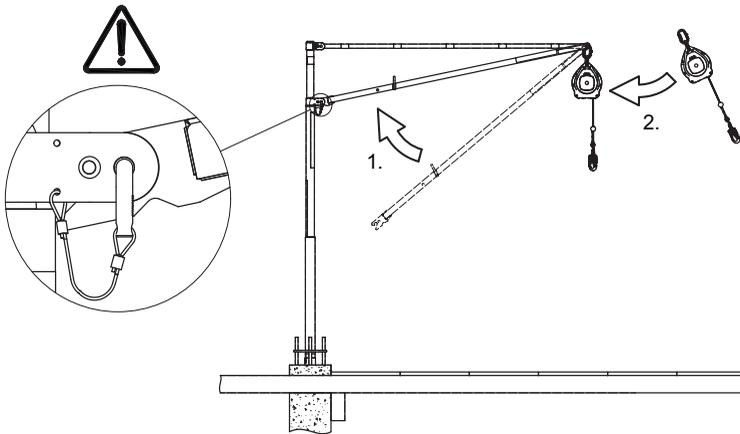
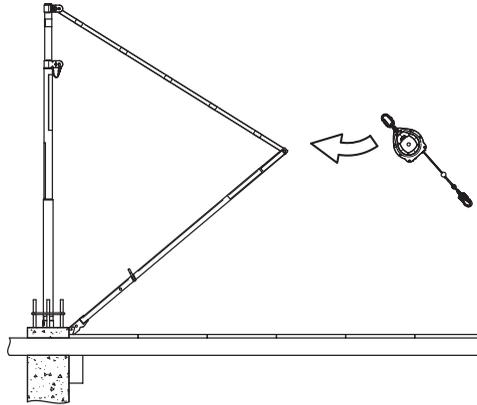

Figure 25. Assembling the SkyReach Anchor and attaching a 6,2m Falcon Fall Arrest Block.
Figure 26. Attaching a 6,2m Falcon Fall Arrest Block at a lower height.
3. Proceed either by; (1) fully assemble the SkyReach Anchor by placing the brace hook into lower lugs at the mast according to Figure 25, secure the brace with the Lock Pin according to the figure. Then connect the fall arrest block to the anchor point and make sure it is correctly secured. **Or** (2) proceed by arranging the position of boom and brace according to Figure 26, connect the fall arrest block to the anchor point, as it is now located at a lower height, before securing the brace to the mast.